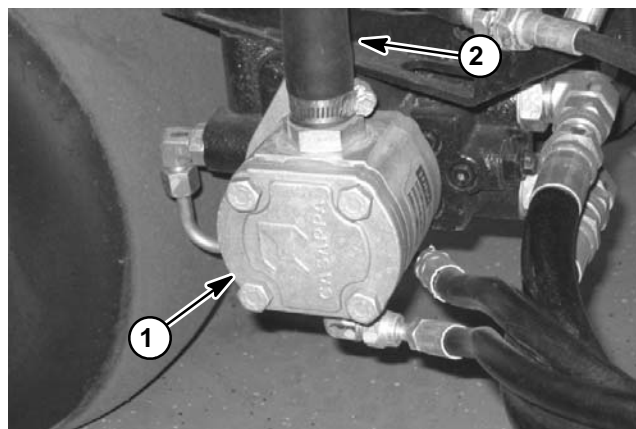

Figure 31
2. Clean area around gear pump suction (inlet) hose (Fig. 31). Clamp pump inlet hose. Remove inlet hose from gear pump, release clamp and drain reservoir into a suitable container. Drain entire hydraulic system while making sure lift cylinders, hydraulic hoses, hydraulic tubes and all other components are drained from low points while the system is warm.